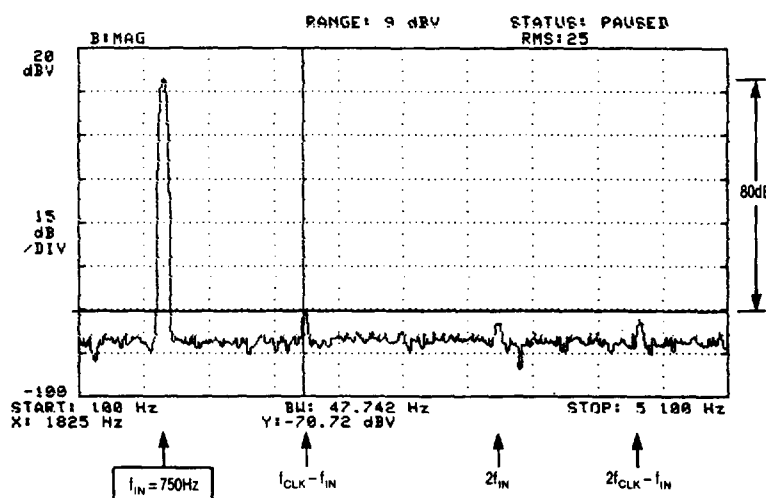

Figure 5A. Output Voltage Spectrum of 1/2 LTC1051 Operating as an Inverting Amplifier with Gain of 10, and Amplifying a 750Hz, 800mV Input AC Signal.
2. If we arbitrarily accept that "aliasing" occurs when output alias signals reach an amplitude of 0.01% or more of the output signal, then: The approximate minimum frequency of an AC input signal which will cause aliasing is equal to the internal clock frequency multiplied by the square root of the op amp feedback factor. For instance, with closed loop gain of  $-10$ , the feedback factor is  $1/11$ , and if  $f_{CLK} = 2.6kHz$ , alias signals can be detected when the frequency of the input signal exceeds 750Hz to 800Hz, Figure 5A.